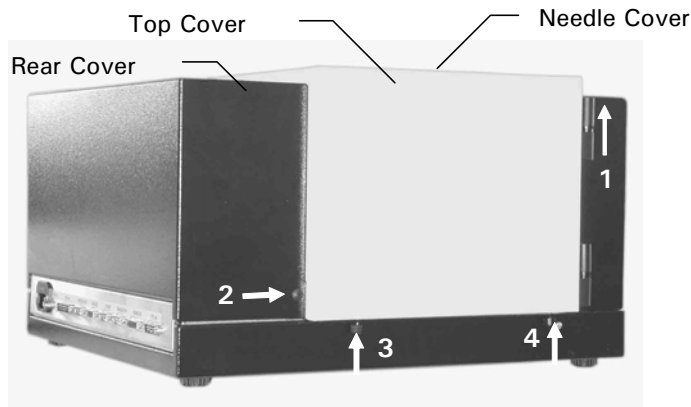

FIGURE 2-1 Removing the Covers – Left Side View
- b) Remove the left door and right door by simply lifting them few centimeters (item 1; FIGURE 2-1).
- c) Remove the screw on the left side (item 2; FIGURE 2-1) and the screw on the right side that hold the rear cover. Remove the rear cover.
- d) Remove the two black screws on the lower left side (item 3, 4; FIGURE 2-1) and the two screws on the lower right side that hold the top cover.